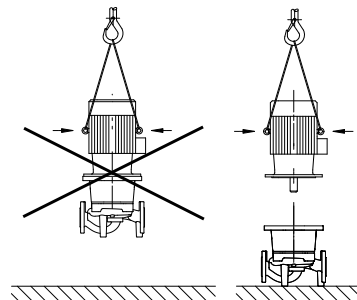

Fig. 7: Transporting the motor
- The transport eyes on the motor are only for transporting the motor, and are not approved for transporting the complete pump (Fig. 7).